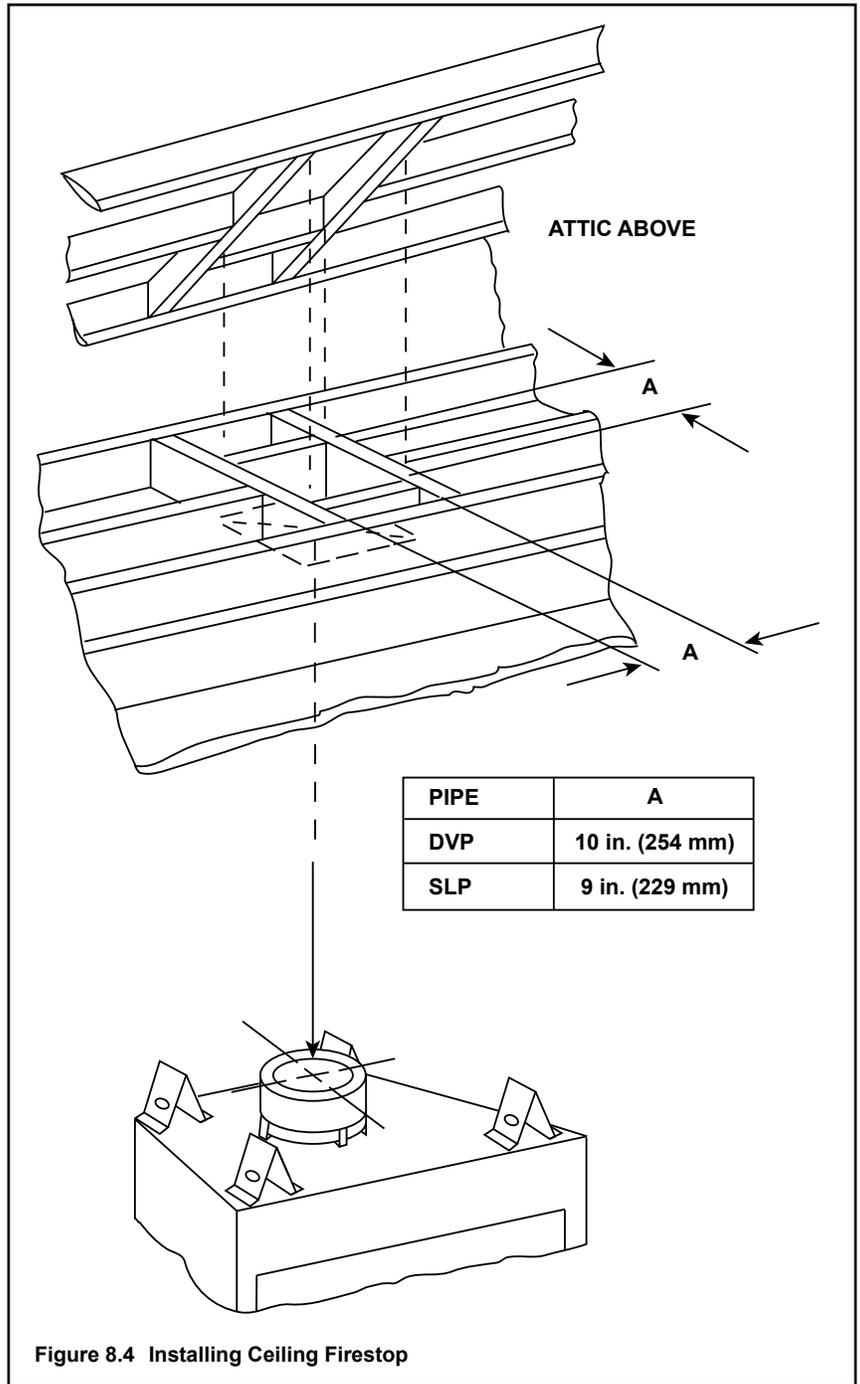

Figure 8.4 Installing Ceiling Firestop
- **DVP pipe only** - Frame an opening 10 in. by 10 in. (254 mm by 254 mm) whenever the vent penetrates a ceiling/floor (see Figure 8.4).
- **SLP pipe only** - Frame opening 9 in. x 9 in. (229 mm x 229 mm) whenever the vent penetrates a ceiling/floor (see Figure 8.4).
- The ceiling firestop may be installed above or below the ceiling joists when installed with a attic insulation shield. It must be under joists between floors that are not insulated. Refer to Figure 8.4.